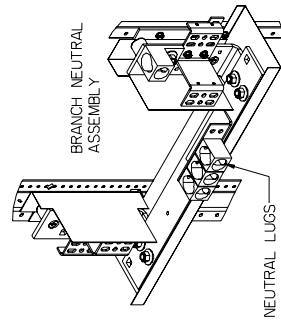

Figure 8
8. Reference fig. 8 - Installing a Branch Neutral Lug Assy. The Branch Neutral is located at the bottom of the Z-rails, or mirrored at the top of the Z-rails depending upon the feed cable location. Different VL N Frame Breaker Mounting Kits will come with different quantities of Neutral Lug Assemblies (item 2). The Neutral Lug Assemblies can be mounted, as shown, or any other available hole on either side of the Branch Neutral and oriented depending on cable feed location. Torque all hardware as specified on the rear of the deadfront.